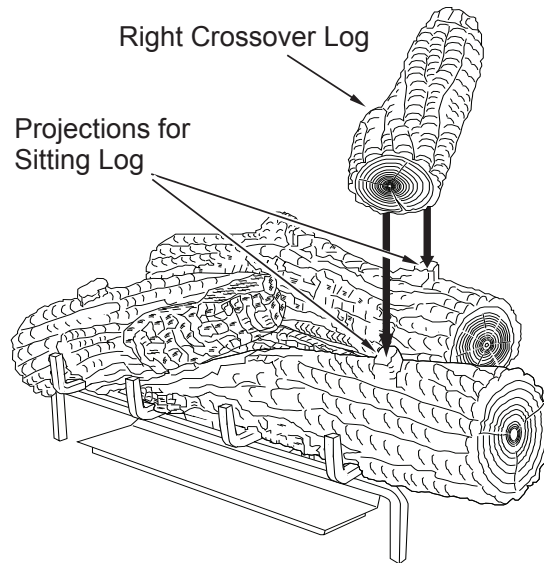

Figure 38 - Installing Right Crossover Log
5. Place the right crossover log onto the rear log and the right front log as shown in Figure 38. The right crossover log has notches in the bottom that will line up with the projections on the rear log and the right front log.